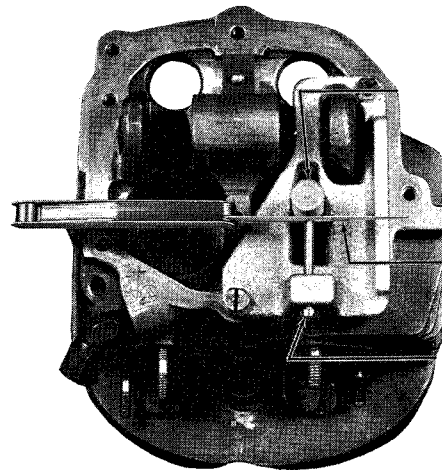

Figure 5. Feeler Gage in Position Between Set-Screw and Gage Adapter
9. Select a .010 inch feeler gage and insert it between the gage adapter and the set-screw as shown in figure 5.
11. Select a .010 inch feeler gage and insert it between the gage adapter and the set-screw as shown in figure 5.